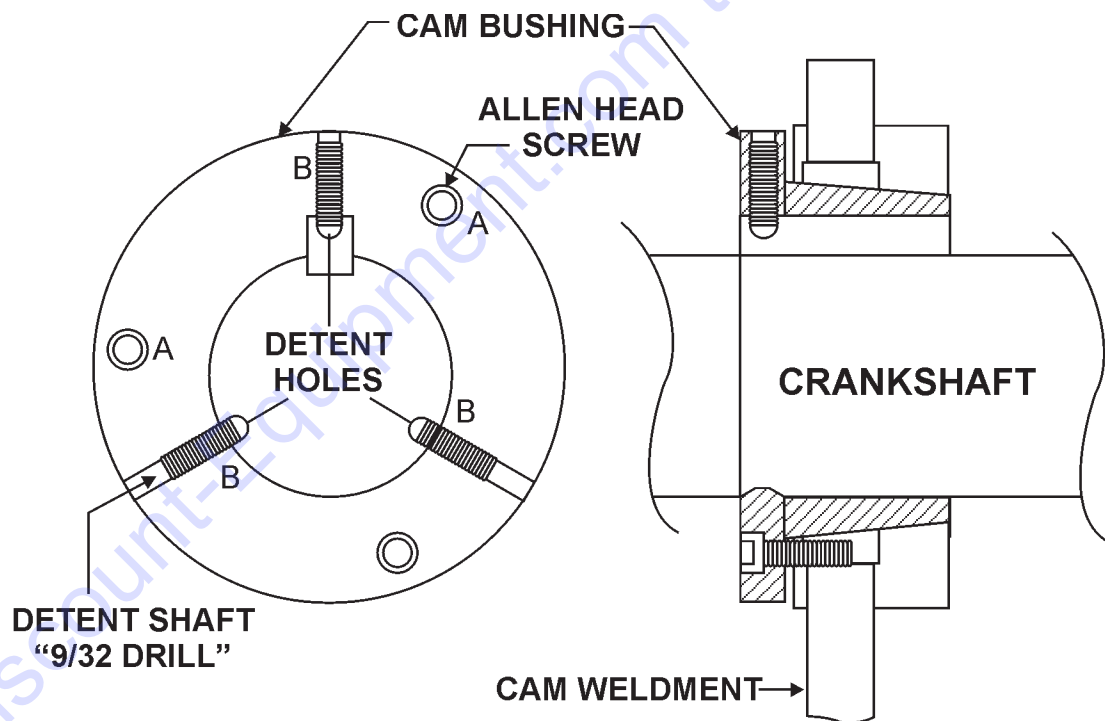

Figure 26. Detent Holes
1. After the bearing assembly has been installed, remove the three “dog type” allen head set screws (B) to allow detents to be drilled. See Figure 26 below.